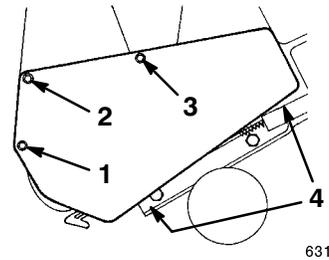

Figure 23
- Remove the three self tapping screws, two cap screws, one washer, and two locknuts that secure the belt cover to the snowthrower frame (Fig. 23). Set the drive belt cover aside.